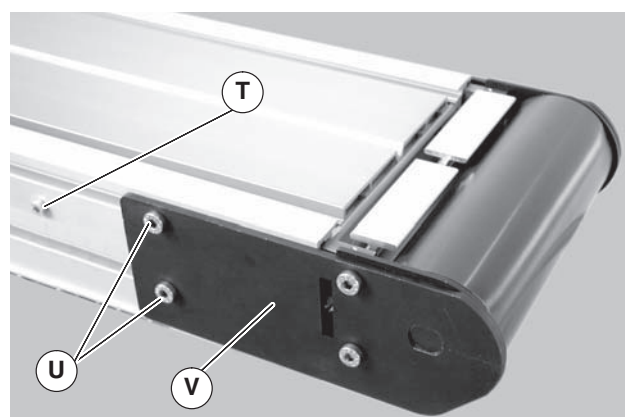
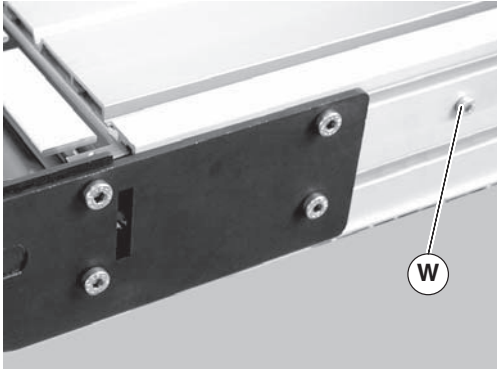

Figure 5
Figure 6
2. On tension end of the conveyor, identified by the pinion locking screw (Figure 5, item T), push in head plate assembly (V): Loosen the pinion locking screw (T), adjust the pinion torque screw (Figure 6, item W). On both sides of conveyor, loosen the two tail clamp bolts (Figure 5, item U), and push head plate assembly (V) inward.